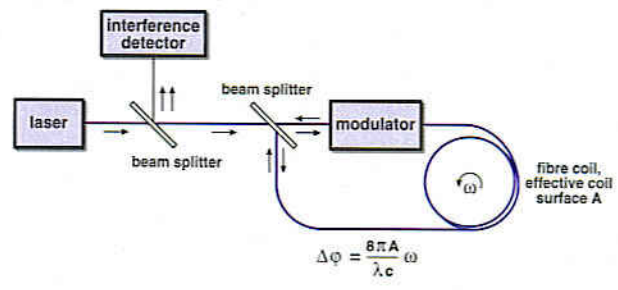

Figure 5. Laser gyro block diagram. (Picture: IMAR Navigation)
- The **optical gyroscope** ('laser gyro'). Once again no spinning mechanics are involved but instead this type of gyro relies on the 'Sagnac effect' to sense rotation. **Figure 5** shows the basic Fibre Optic Gyroscope (FOG) layout. It consists of a light emitting super luminescent diode (SLD), a modulator, an interference detector and a coil of fibre optic cable consisting of n turns enclosing an area A . When light from the SLD passes through the second beam splitter one half of the beam is injected at one end of the fibre optic coil and travels in a clockwise direction through the coil while the other half is injected at the other end and travels in an anti-clockwise direction. The phase relationship of the two exiting beams is compared in an interferometer. Both beams travelled the same distance (but in different